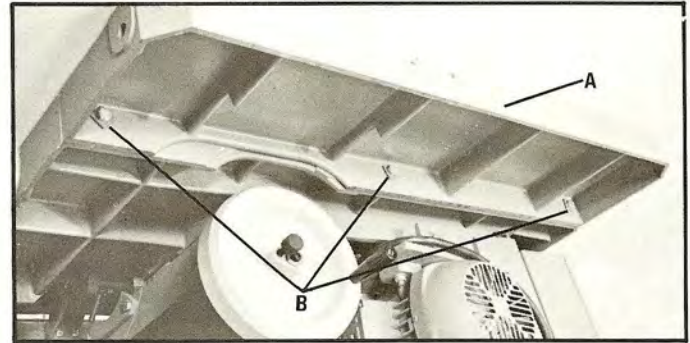

Fig. 8
Assemble the table extension (A) Fig. 8, to the saw table using three M10 x 35mm hex head cap screws (B) and "square" washers.